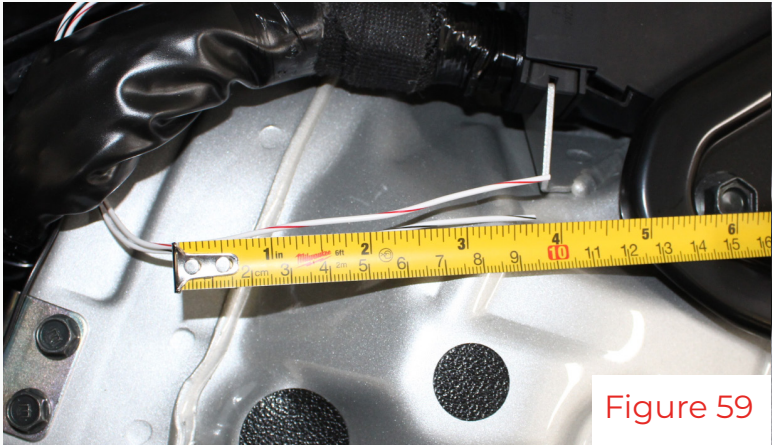
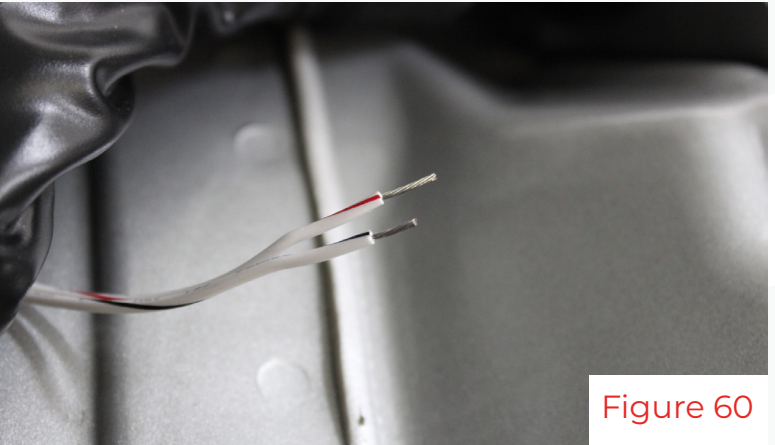

Figure 59
Figure 60
29. Trim about four inches of wire off the two white wires(fig 59) and then use a wire strippers to strip them for a crimp connection(fig 60).